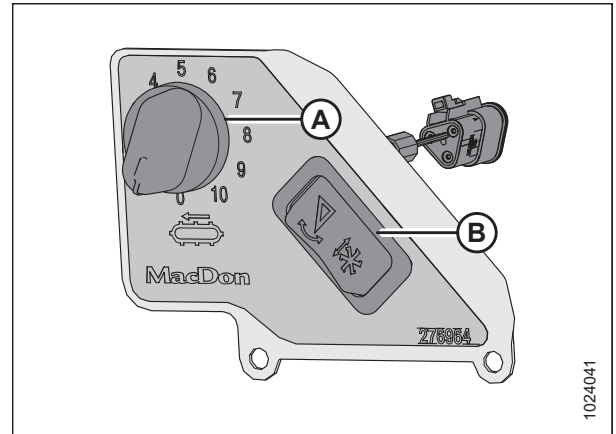

Figure 3.165: In-Cab Side Draper Speed Control
Switch (B) in Figure 3.165, page 145 allows the operator to switch between the header tilt and reel fore-aft controls. For instructions on the controls, refer to Adjusting Header Angle from Combine, page 142